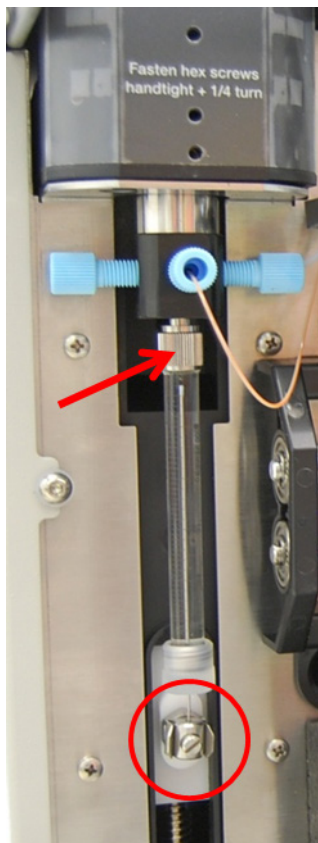

Figure D-11 Syringe Assembly Indicating the Plunger Clip (Circle) and Top of Syringe (Arrow)
3. Carefully pull the plunger out of the plunger clip (Figure D-11).
4. Remove the syringe from the syringe valve by rotating the top of the syringe clockwise (Figure D-11).